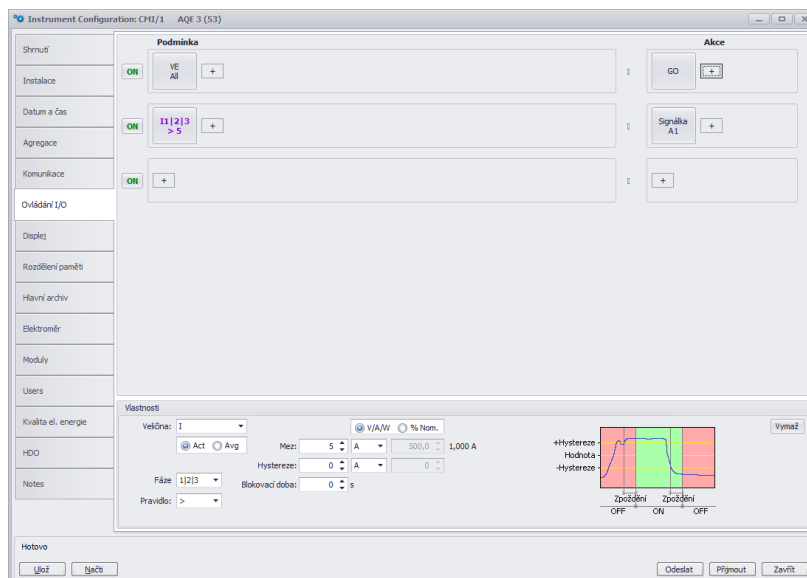

Figure 17: ENVIS.Daq - configuration of programmable inputs and outputs behavior.
2.4.5 I/O Management (fig. 17)